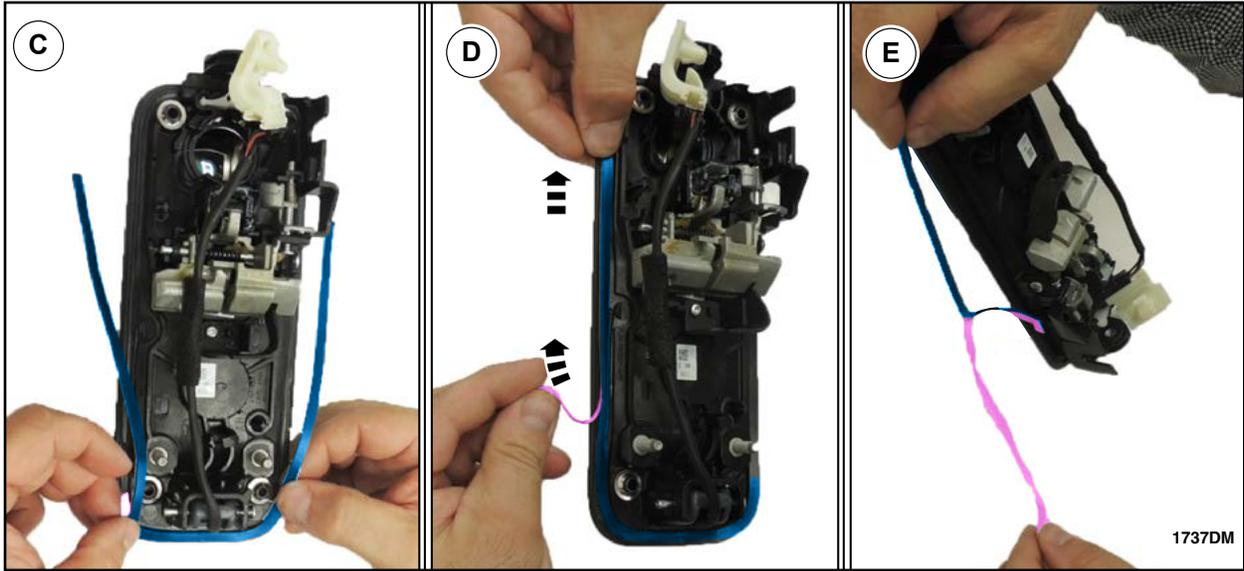

FIGURE 36
- C. Align the marks made on the Foam K and exterior door handle and adhere the back center portion to the exterior door handle as shown in Figure 36.
- D. Lay one side of Foam K down on the exterior door handle and without stretching the foam pull off the adhesive backing as you adhere Foam K to the exterior door handle as shown in Figure 36.
- E. Remove the protective backing from the other side leg of Foam K as shown in Figure 36.